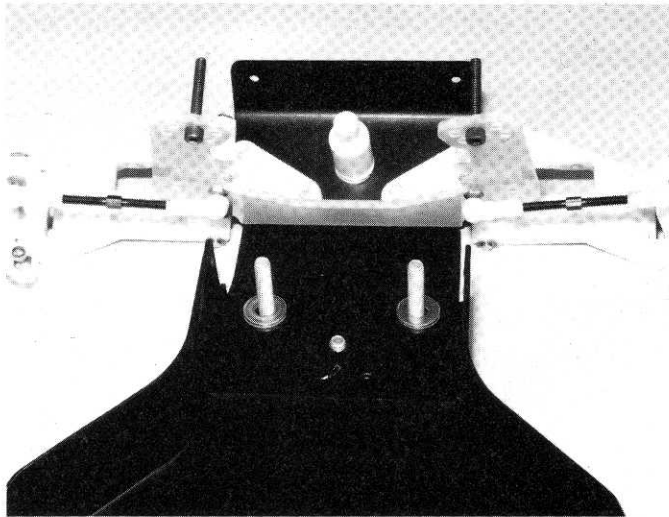

**Fig. 20**
- Fig. 20** Locate the servo saver arm...